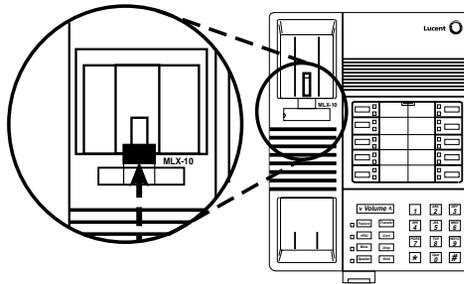

Figure 3-34. Removing the Handset Holder
- a. Remove the handset holder by pushing it up and pulling it out. See Figure 3-34.